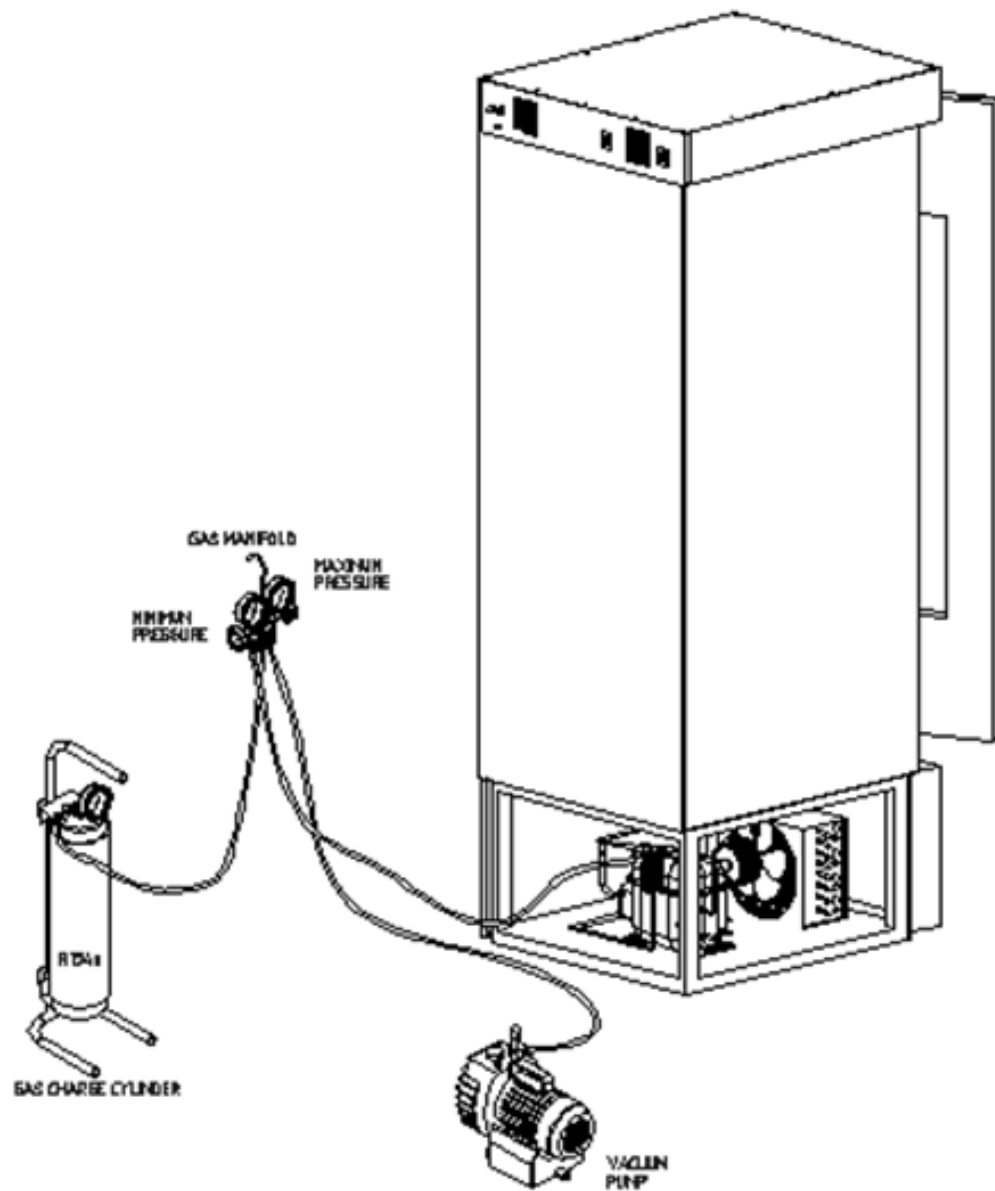

Figure 4
- Connect the maximum pressure manometer hose of the gas manifold to the compressor service line (See Figure 4).